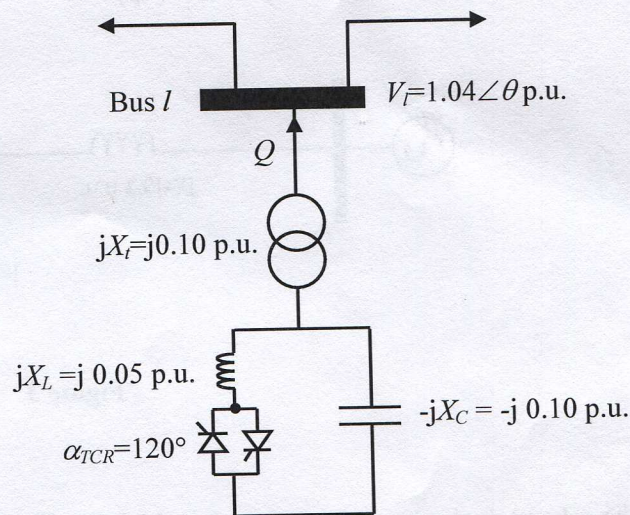

Figure 1
- B) A static var compensator (SVC) connected to bus l through a connecting power transformer, injects reactive power Q to bus l of the power network, as shown schematically in Fig. 1. The nominal reactance of the TCR's linear inductor and the capacitor are 0.05 and 0.10 p.u., respectively. The leakage reactance of the power transformer is 0.10 p.u. Determine the amount of reactive power that the SVC would need to produce to keep the nodal voltage magnitude at bus l at 1.04 p.u. for the case when the thyristor's firing angle α_{TCR} is 120° . (4p)